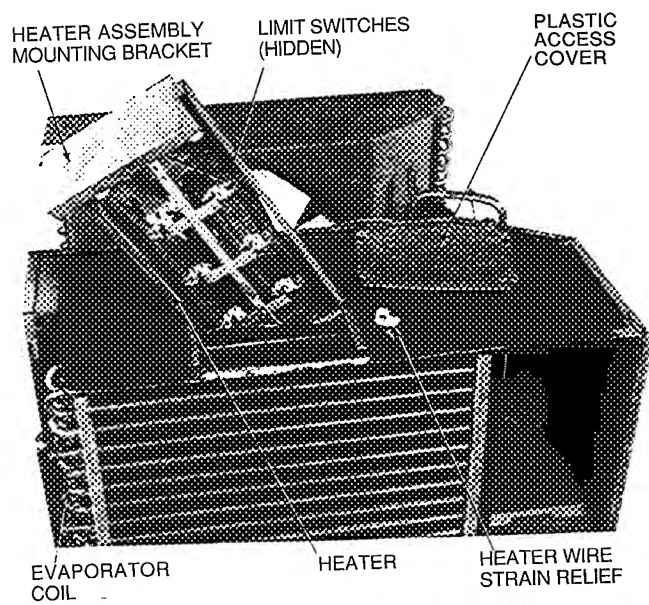

Fig. 26 – Chassis with Electric Heater
3. Remove heater assembly (Fig. 26) by lifting straight up, taking care not to cause fin damage to top of evaporator coil when heater assembly mounting bracket is lifted off coil.
5. Repair or replace limit switches (Fig. 26) as needed.